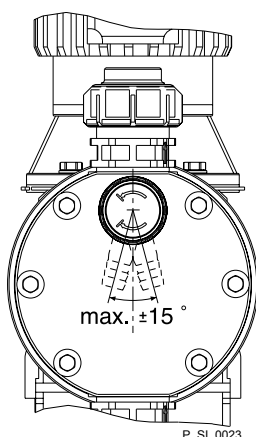

Fig. 20: Permissible alignment of the relief valve
- Route the overflow line with a continuous slope and moreover with the tube nozzle pointed downwards - see Fig. 20.